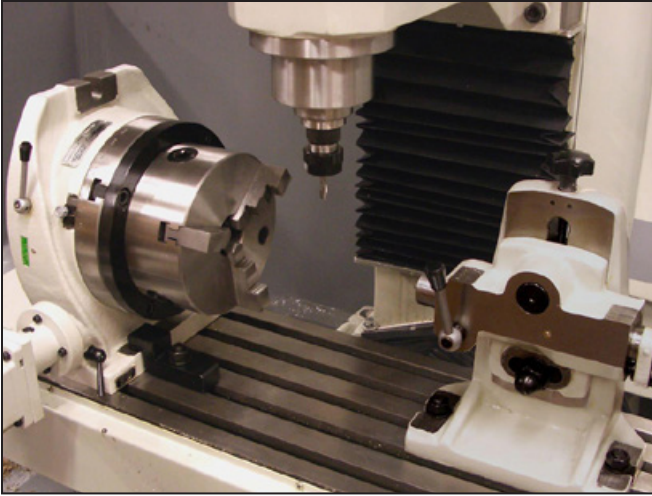

Figure 1
1. Position the 4th Axis on the left side of table (see **Figure 1**).